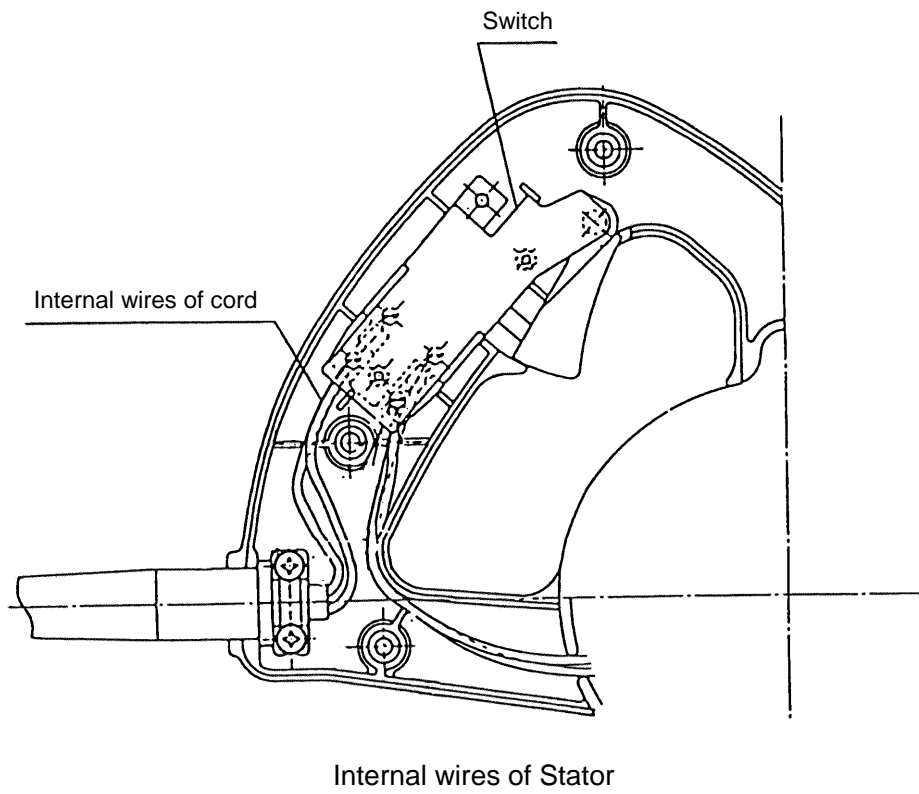
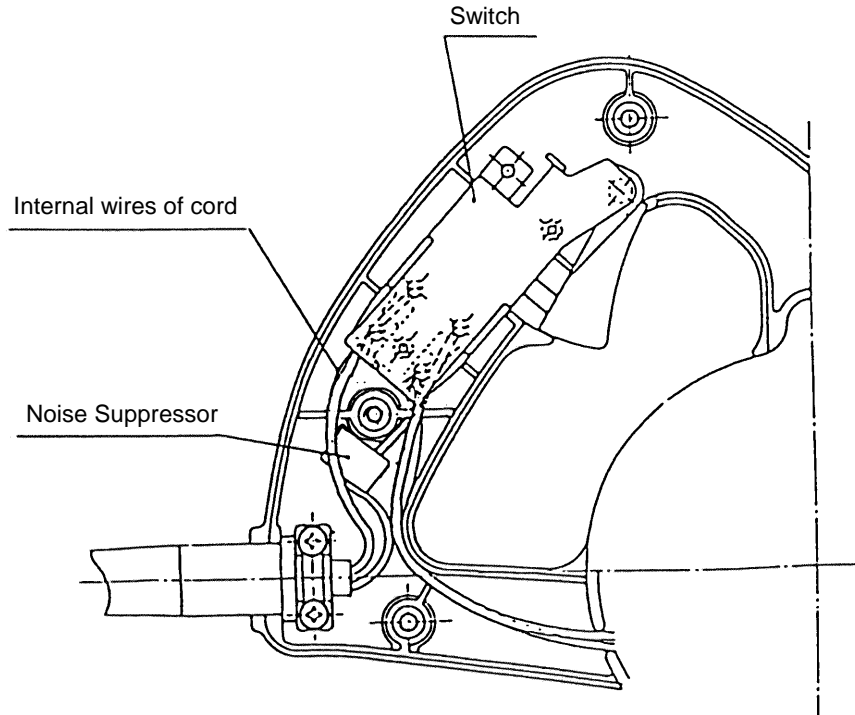

Fig. 15
Fig. 17
(7) Internal wire arrangement (See Fig. 15 - 17).
Connect internal wires as illustrated in Fig. 15 - Fig. 17. At this time, ensure that none of the wires are pinched between components during assembly.